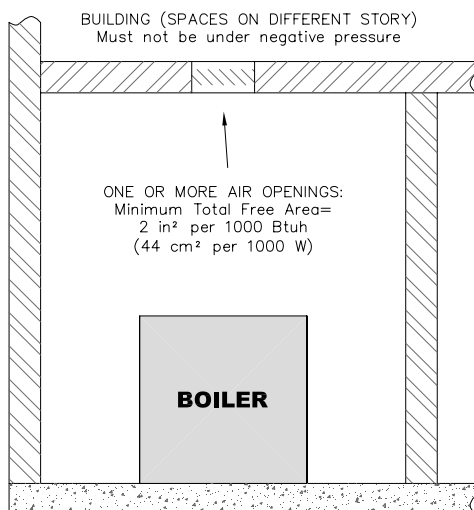

Figure 1.3: Air Openings – All Air from Indoors on Different Floors
- b. **Combining spaces on different floors:** Provide one or more permanent openings communicating with additional spaces that have a total minimum free area of 2 in² per 1000 Btu/hr (44 cm² per 1000 W) of total input rating of all equipment. See Figure 1.3 for an illustration of this arrangement.